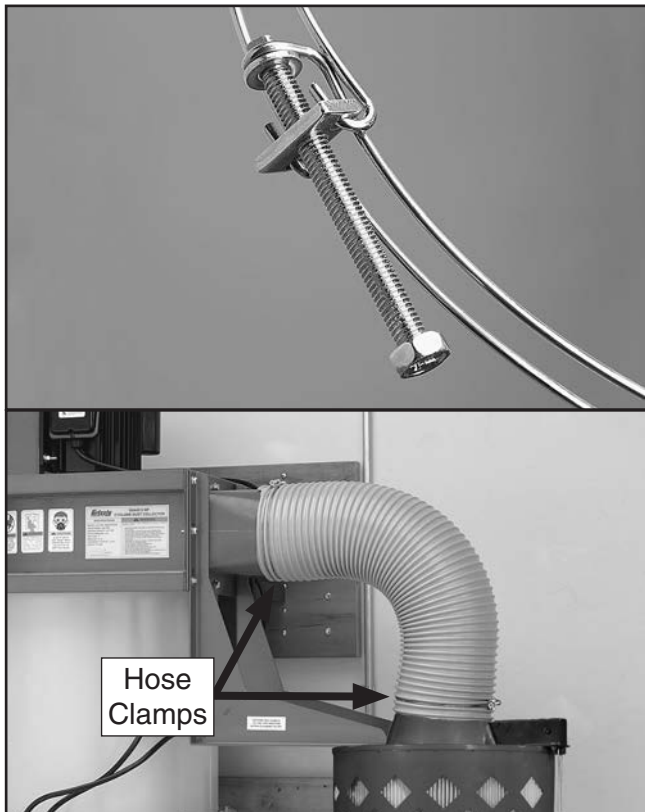

Figure 21. Gray hose properly installed (Model G0440).
- b. Connect the gray flexible hose from the outlet port to the canister adapter and secure it in place with the two 7" hose clamps, as shown in **Figure 21**.